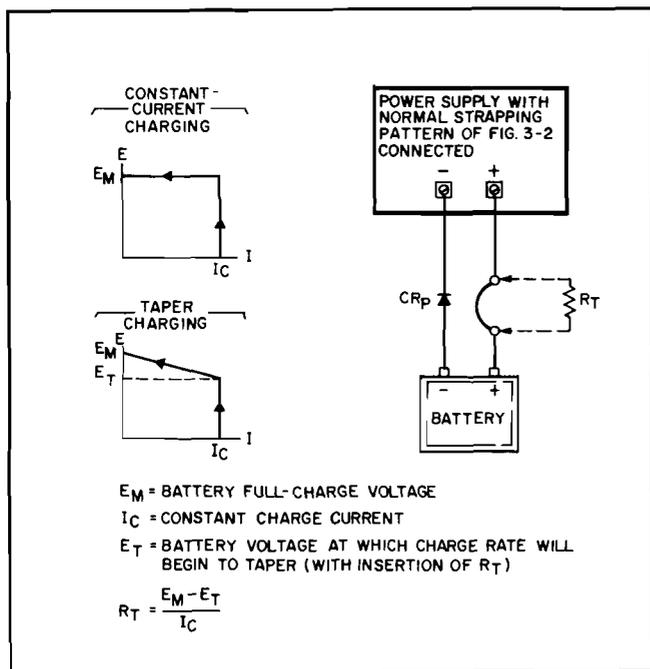

Figure 3-14. Battery Charging
*Any time these supplies are used to charge a battery, be sure to install a protective diode CRP in series with the battery as shown in Figure 3-14 to prevent the battery from discharging into the supply if the supply is turned off. Extensive damage to the supply could result if this diode were omitted.*
- e. Adjust the VOLTAGE control for an output voltage 0.7 volts greater than the desired full charge voltage. (The added 0.7 volts compensates for the drop across  $CR_p$ .) The supply may then be connected to the battery terminals, positive to positive and negative to negative as shown in Figure 3-14 (omit  $R_T$ ).
**3-82 Taper Charge.** When charging lead-acid cells, many manufacturers recommend that the charging current be reduced as the charge nears completion. This can be accomplished by inserting a small resistance ( $R_T$ ) in series with one of the load leads from the supply to the battery. (See Figure 3-14.) This resistor alters the normally rectangular charging plot in such a manner as to provide a taper charge for the last portion of the charge. The proper value for this resistor is the difference between the full charge voltage and the voltage at which the tapering is to start, divided by the initial charging current. Set the initial charging rate and full charge voltage as instructed in paragraph 3-81.